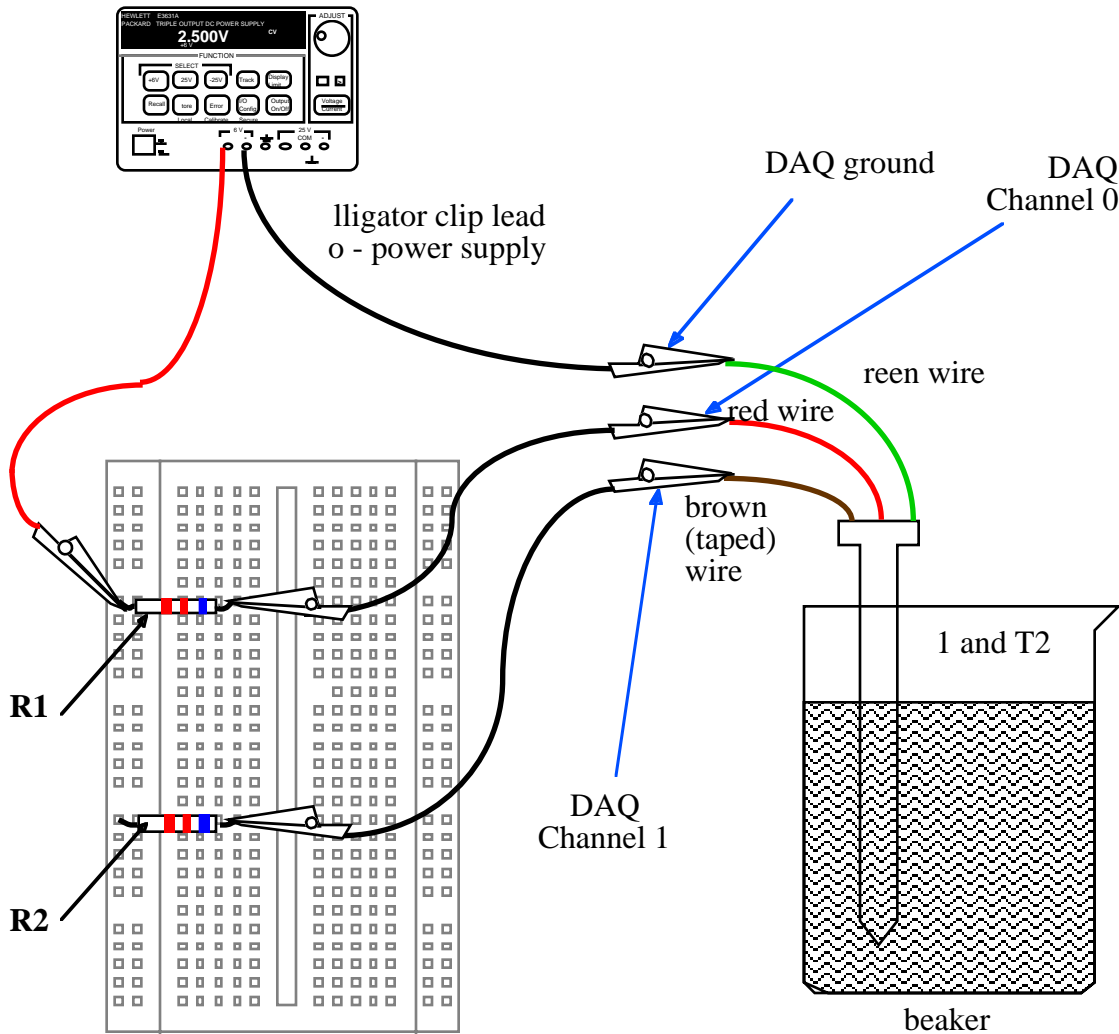

Figure 9. Suggested Lab Circuit
7. Now you need to connect the LabVIEW data acquisition system to your circuit. This will require three electrical connections: (1) from the Channel 0 signal input (pin 1 of the green connection board) to the red wire, (2) from the Channel 1 signal input (on pin 2 of the green connection board) to the brown (taped) wire, and (3) a single ground connection from pin 11 of the green data acquisition board to the green wire. NOTE: Be very careful NOT to short out the connections between the three wires coming from the thermistor probe.
8. Check your connections. A suggested layout is shown in Figure 9. Have a TA check your final circuit connections before turning on the power supply.